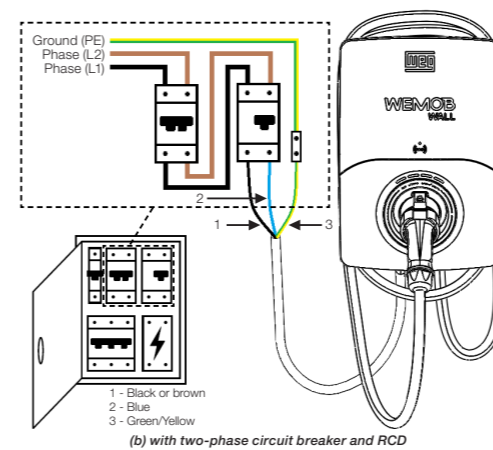

Figure 5.3: (a) and (b) Examples of single-phase (L1-N-PE) and two-phase (L1-L2-PE) electrical connection
- The color coding of the power cables shown in Figure 5.3 are merely illustrative and may not comply with an international standard.